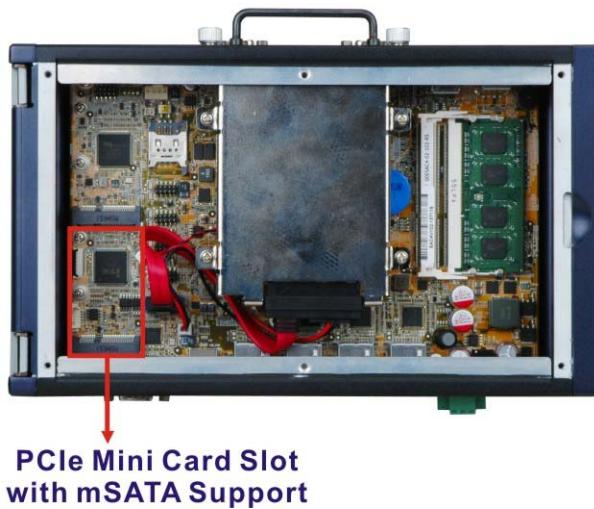

Figure 3-10: PCIe Mini Slot Location
Step 2: Locate the PCIe Mini slot. If an mSATA module is being installed, please install it in the slot labeled M_PCIE1 as shown in **Figure 3-10**.